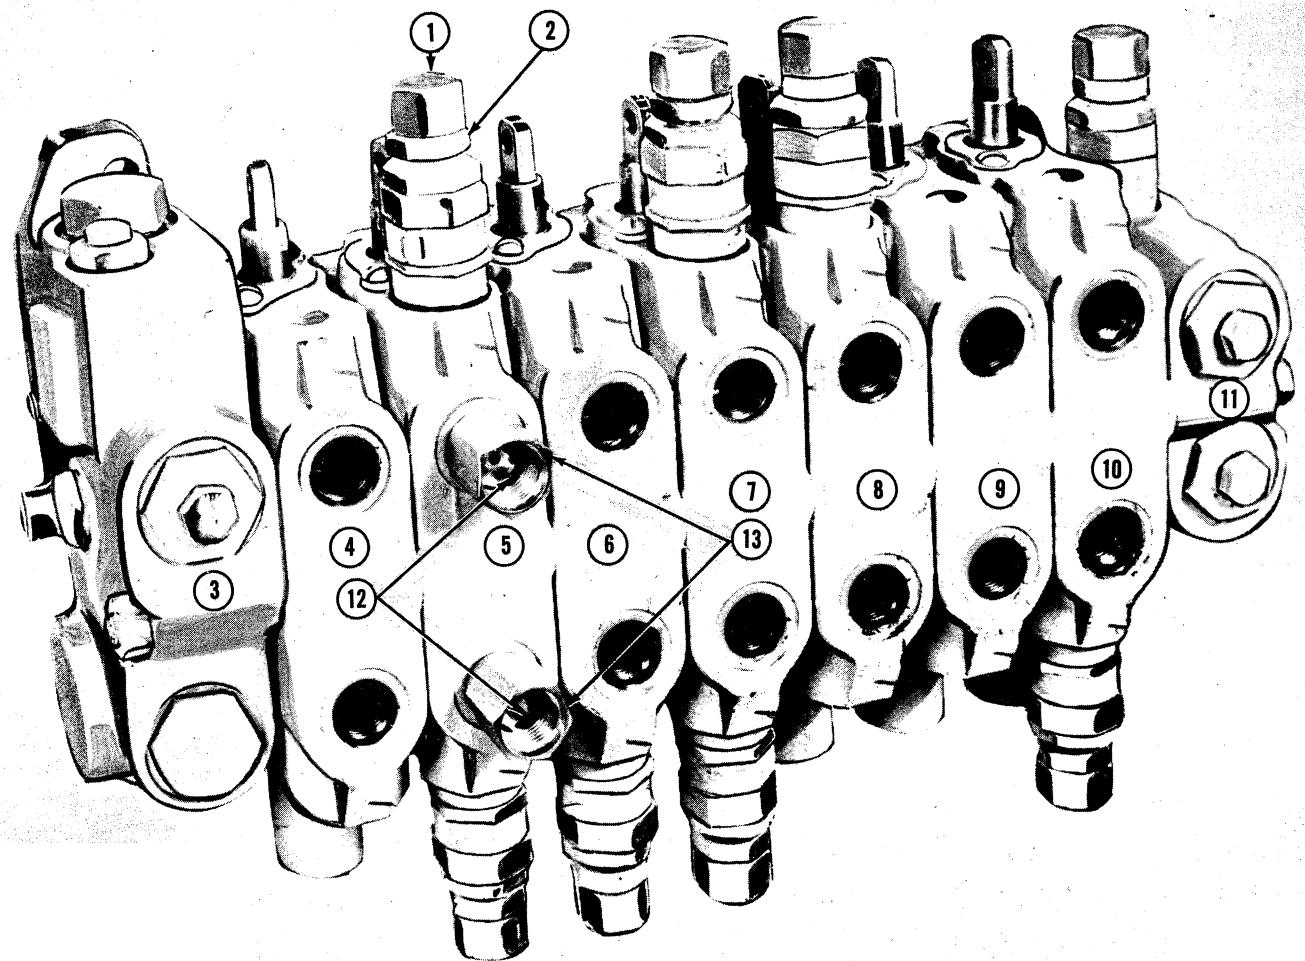

Figure 13
The location of the circuit relief valves are shown in Figures 13 and 14. Note that the valves are stacked differently between the two lever control and four lever control model. When an extendible dipstick is not used, the appropriate valve section is removed from the stacking.
2. Loosen the adjusting cap lock nut (2), Figure 13, on the valve to be adjusted.